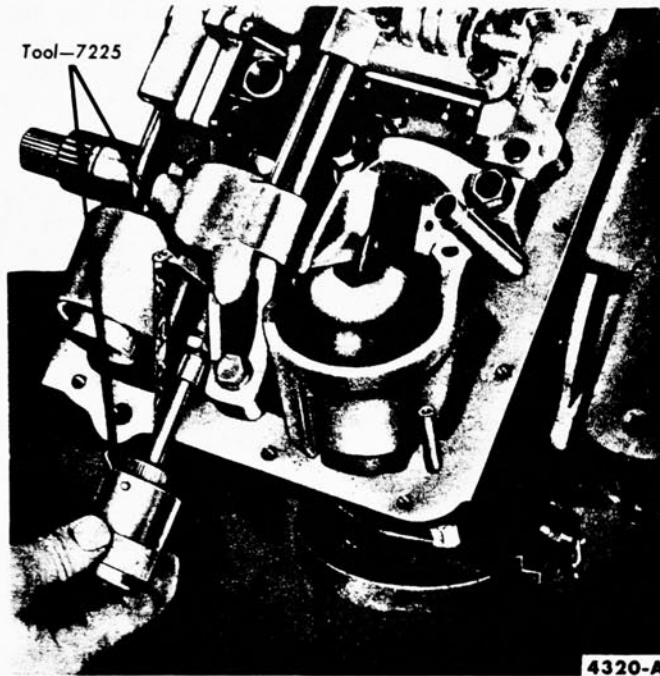

FIG. 33—Front Servo Adjustment
3. Using the front band adjusting wrench shown in Fig. 33, insert a ¼-inch spacer between the lever and the stem, then tighten the screw until the ratchet overruns.